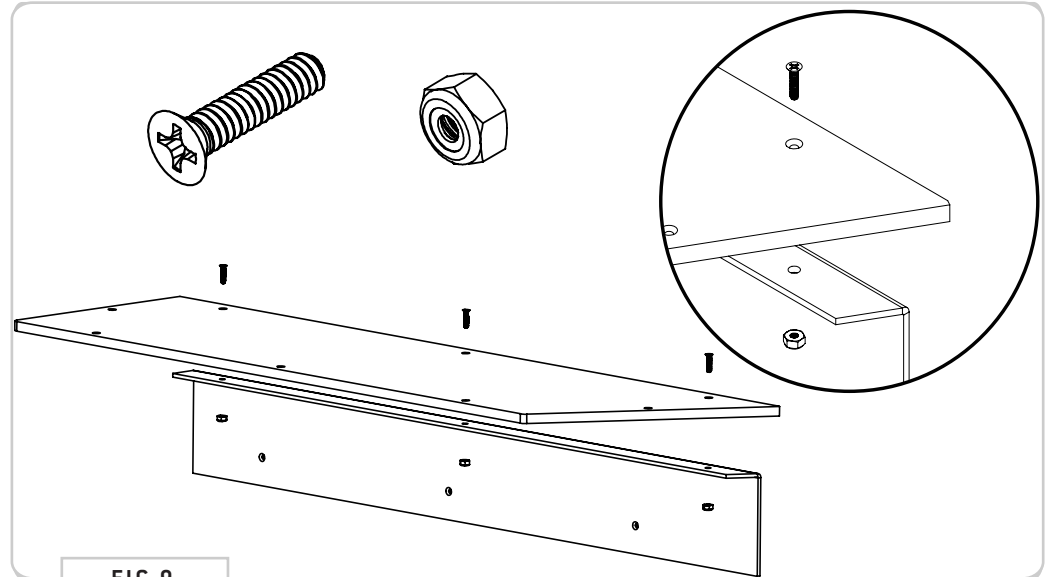

FIG 9
3.1 Attach the Wood Flooring Extension to the Support Bracket: Bolt the wood Flooring Extension and Support Bracket together with (3) 6-32 X 0.625 Flat Head Phillips Drive Screws and 6-32 Nylon Locknuts (FIG 9). Snug these down and proceed to next step.